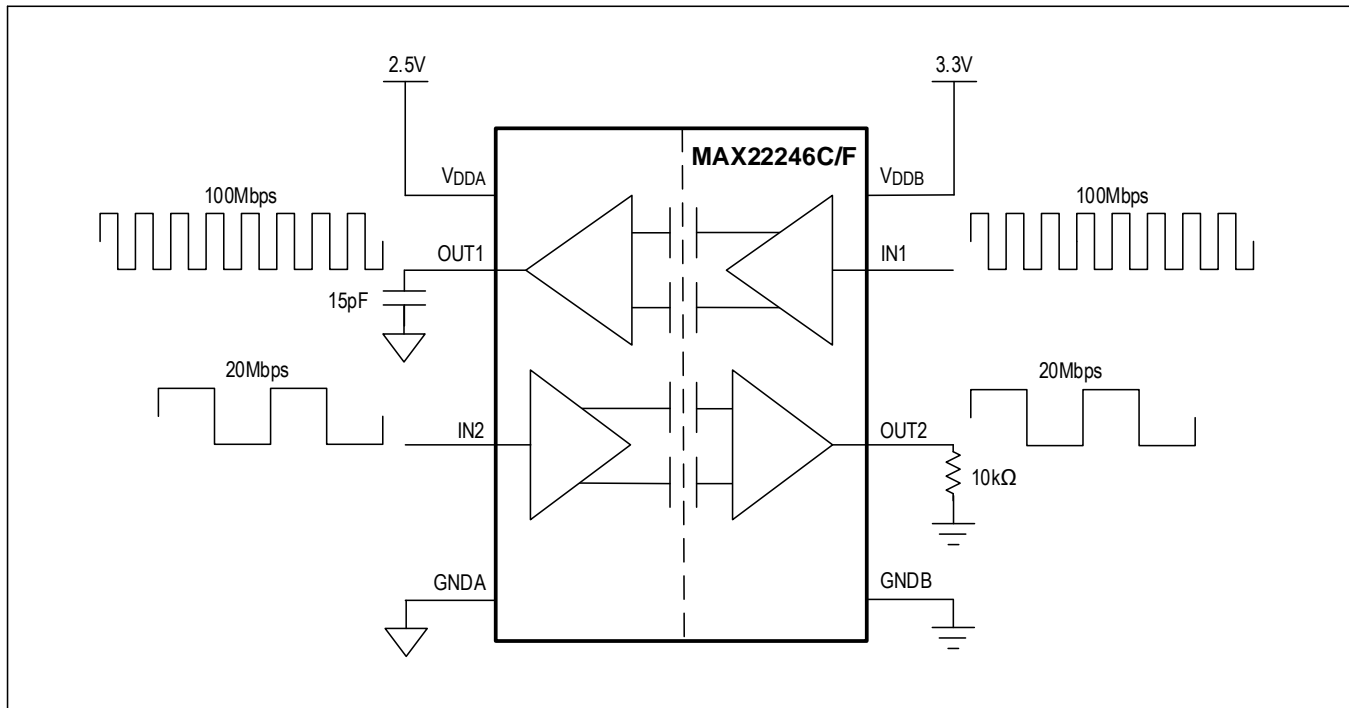

Figure 10. Example Circuit for Supply Current Calculation
**Example** (shown in Figure 10): A MAX22246C/F is operating with  $V_{DDA} = 2.5V$ ,  $V_{DDB} = 3.3V$ , channel 1 operating at 100Mbps with a 15pF capacitive load, and channel 2 operating at 20Mbps and 50% duty cycle with a 10k $\Omega$  resistive load. See Table 4 and Table 5 for  $V_{DDA}$  and  $V_{DDB}$  supply-current calculation worksheets.